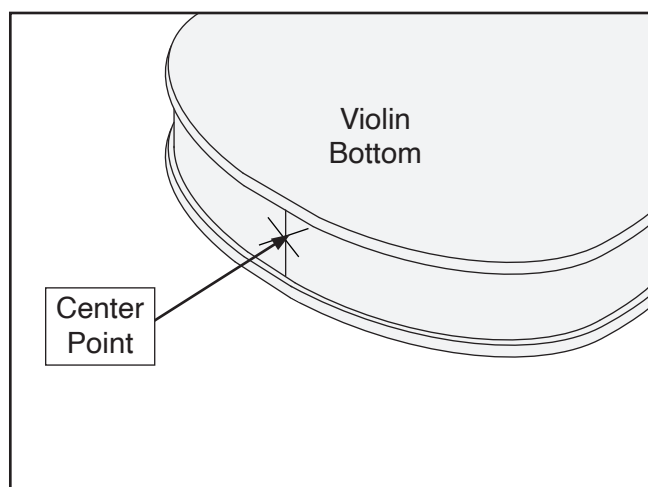

Figure 7. End-pin installation point.
1. On bottom of violin, find center point and mark with a pencil (see **Figure 7**).
2. Use a 1/4" drill bit to drill a hole at the marked location (see **Figure 7**).